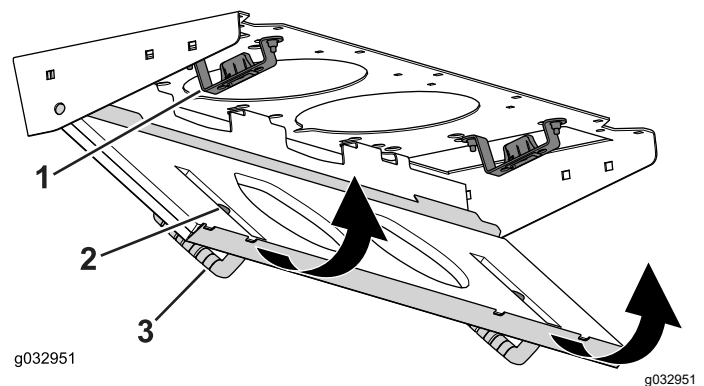

Figure 61
4. Rotate the filter screen around the tabs until the latch locks into the latch-mount assembly (Figure 61).